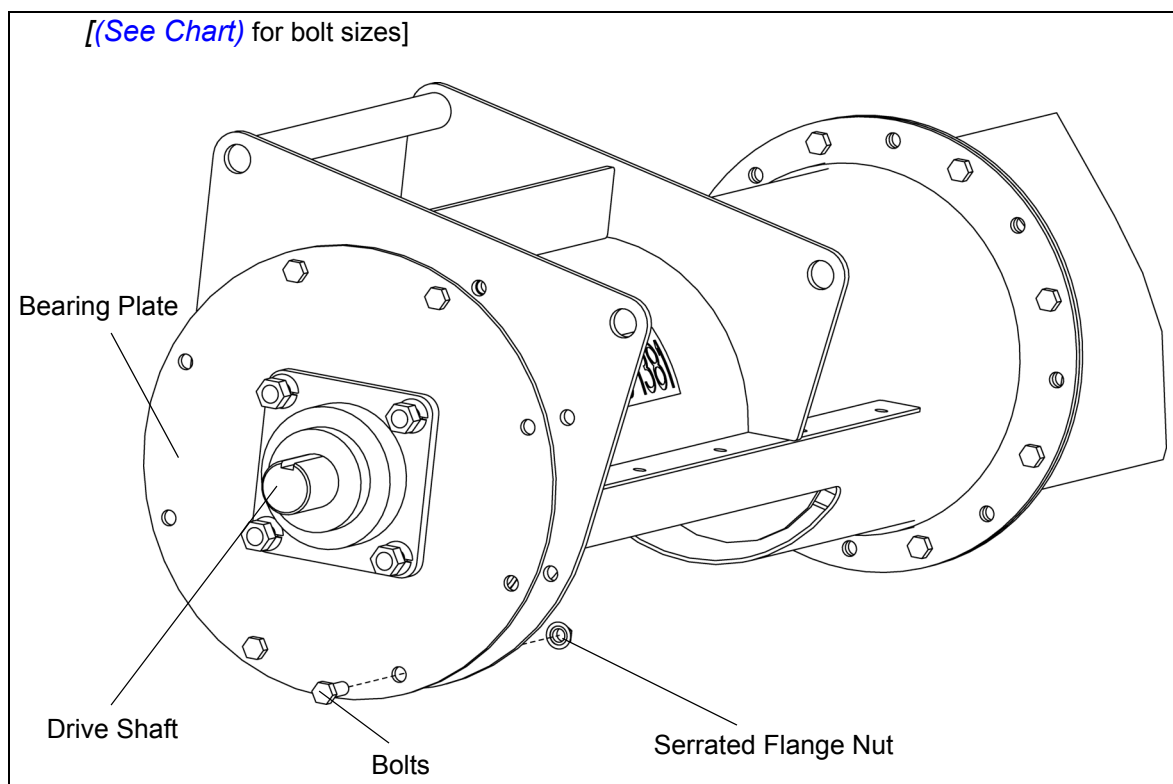

Figure 4M
3. Only Secure With UPPER and LOWER four(4) bolts (Figure 4M). The other four (4) bolts will be installed later with the Belt Guard Mounting Brackets.